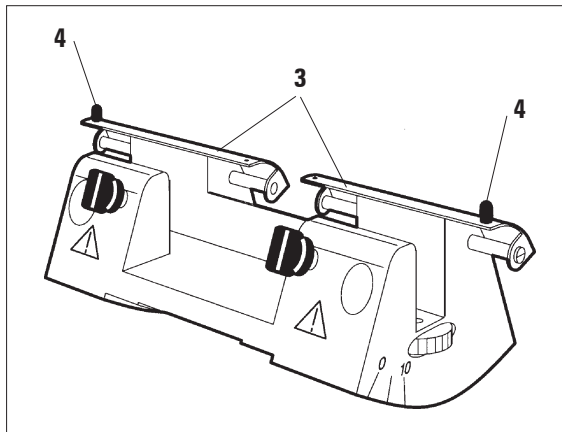

Fig. 3
The knife guard (3) of the knife holder N can be easily positioned via the two buttons (4) (Fig. 3).